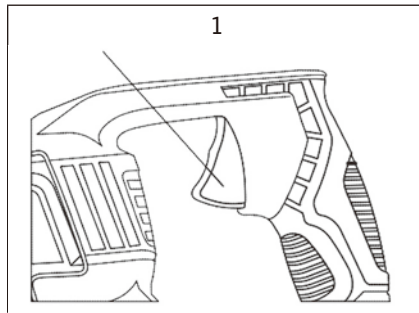

FIG. 4
1. To turn the saw ON, squeeze the switch trigger (1) slightly (Fig. 4).